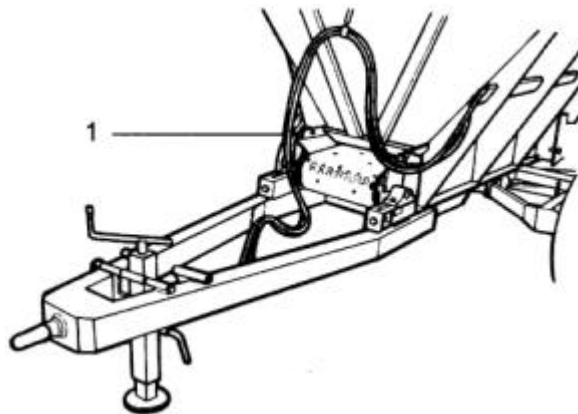

Figure 4
17. The spreader hydraulic system is powered from the tractor hydraulic system via two hydraulic hoses (1) (Fig 4). The functions and operation of the spreader are controlled from the tractor.